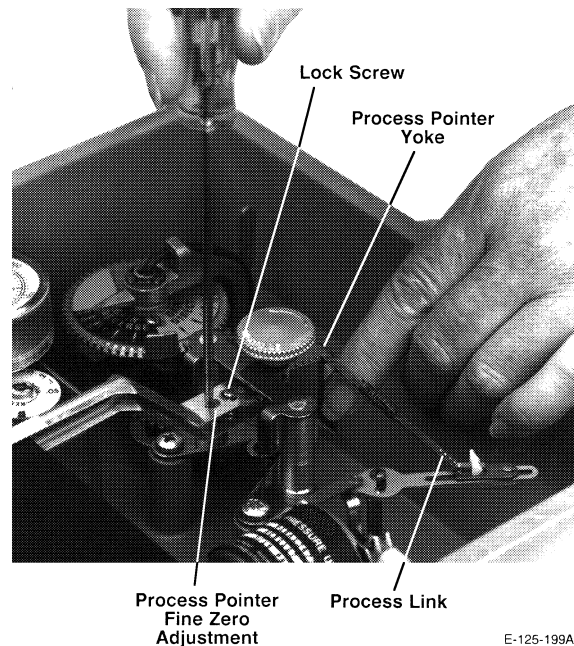

Figure 7. Process Pointer Fine Zero Adjustment
5. Process indicator is zero-set. Apply an input equal to the control point and adjust process indicator fine zero if necessary. Refer to Figure 7.